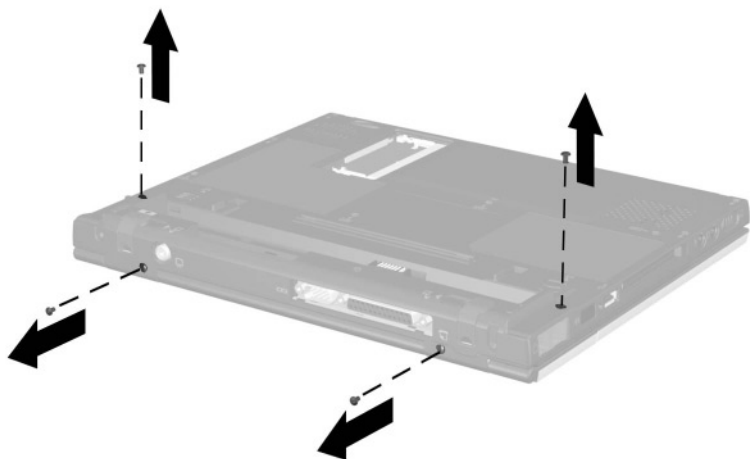

Figure 5-21. Removing the Switch Cover Screws
6. Remove the four TM2.0 × 6.0 screws that secure the switch cover to the base enclosure (Figure 5-21).